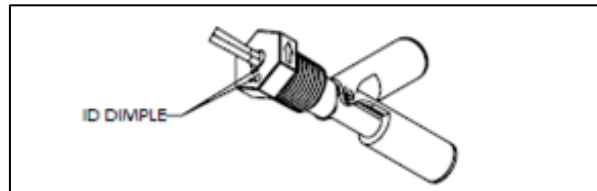

Figure 3 New Sensor ID
- 8) Install with arrow *pointing up*. Leave between *2 and 4 threads*. (Fig. 3)